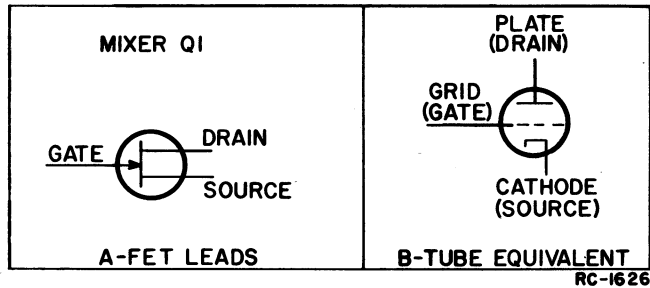

Figure 2 - FET Nomenclature
The RF amplifier uses a Field-Effect Transistor (FET) as the active device. The FET may be considered a semiconductor current path (or channel) whose resistance is varied by a voltage applied between the "gate" and "source" terminals. Lead identification for the FET is shown in Figure 2. The FET has voltage-controlled characteristics, any may be compared to a vacuum tube in operation (see Figure 2).
The 1st mixer uses a Field-Effect Transistor (FET) as the active device (Figure 2). The FET has several advantages over a conventional transistor, including a high input impedance, high power gain, and an output that is relatively free of harmonics (low in intermodulation products).
1. Loosen the two Phillips-head retaining screws in from casting (see Figure 2), and pull casting away from system frame.